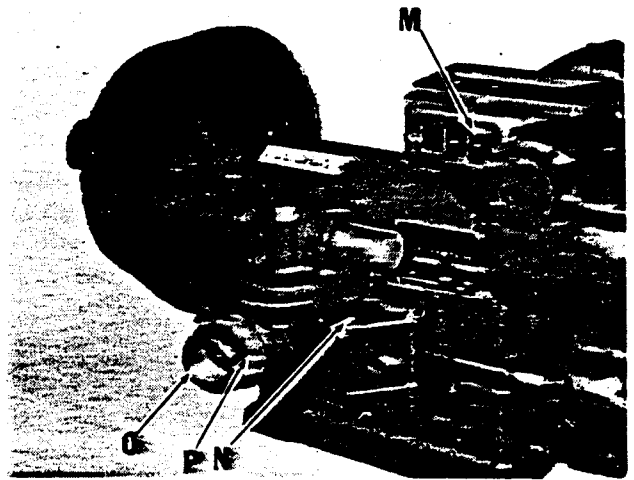

Figure 9
- Turn the lathe "ON", M Fig. 9, and as the spindle rotates, check the drum for run-out. If the drum run-out is more than the amount of out-of-roundness indicated from the preliminary brake drum inspection; stop the lathe; loosen the nut on the spindle and inspect the adaptors, spacers and contact surfaces of the drum to be sure that they are free from dirt and burrs.
Unlock the cross slide lock, N Fig. 9, and ease the tool bit into the score by use of the cross feed handwheel, O Fig. 9, until the score appears to have cleaned up.
- Note the reading on micrometer dial, P Fig. 9, located on cross feed handwheel and back the tool bit away from drum approximately one turn.